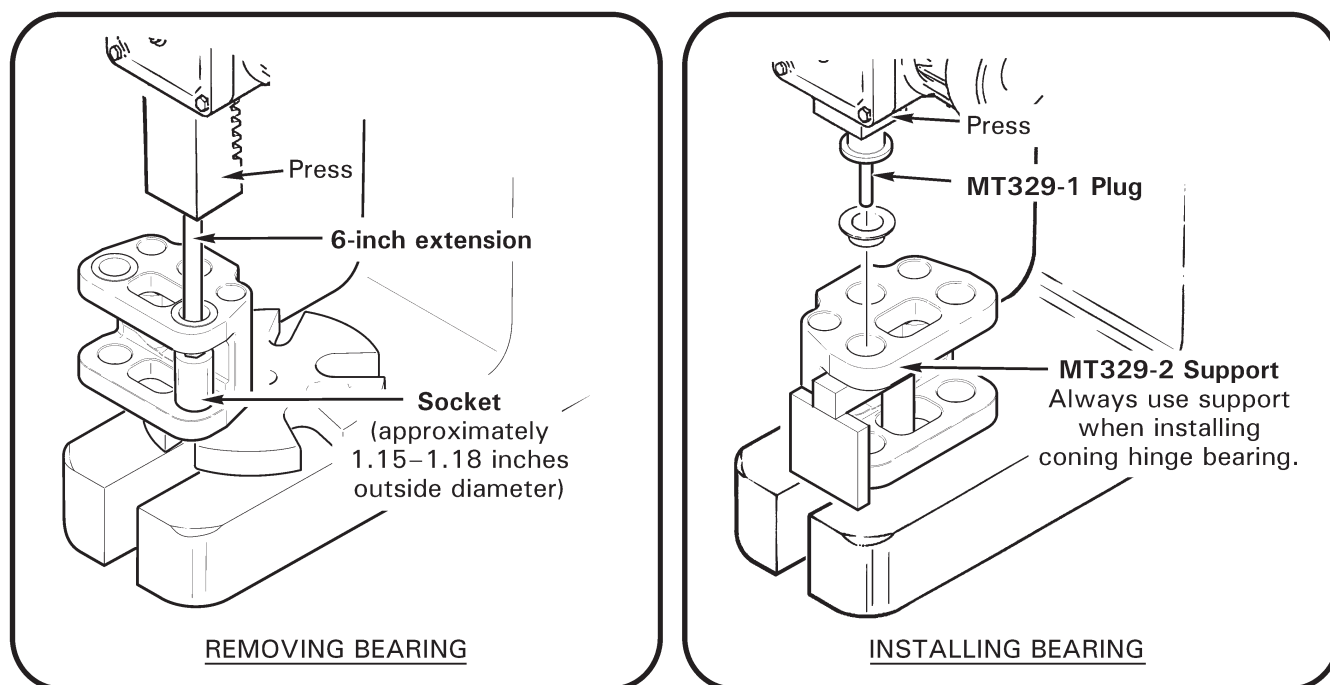

FIGURE 26-4 MAIN ROTOR HUB BEARING REPLACEMENT
2. Refer to Figure 26-4. Verify tooling surfaces are smooth to avoid damaging hub and bearings. Press A648-1 and/or A648-3 bearing(s) from hub using MT329-1 plug assembly (Rev H or subsequent) with MT329-10 tube. Press A648-2 bearing(s) from hub using MT329-11 plug assembly with MT329-10 tube.